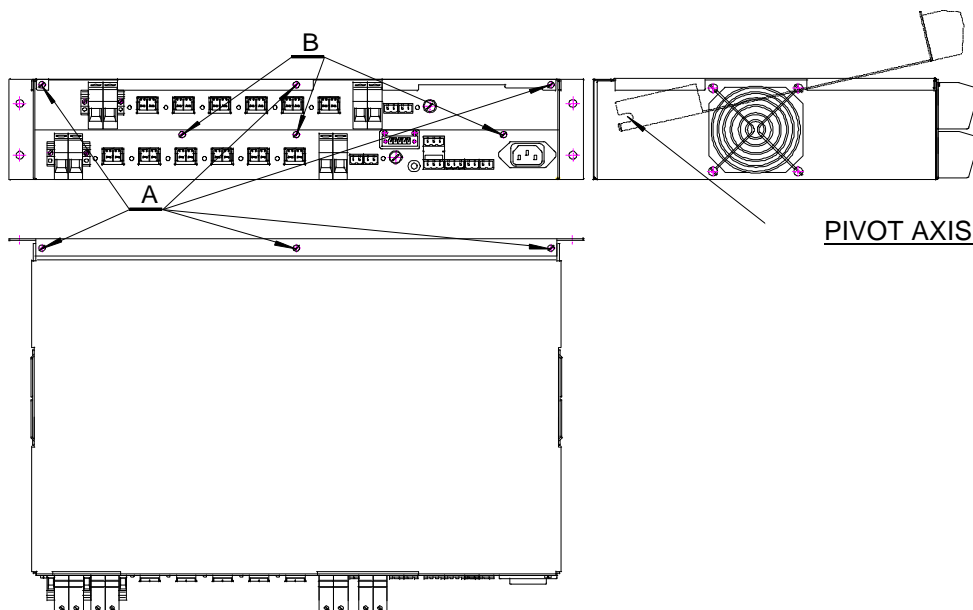

Fig.8. Access to the fuses in the 2U power supply version
The 2U height Fig. 8. power supply has two sets of sockets and fuses – the upper one and the lower one. To access the upper fuses set, the screws that fix the upper shield (A), should be unscrewed. In order to access the lower set of fuses, the screws (B) needs to be unscrewed and the upper set of fuses and sockets needs to be raised.